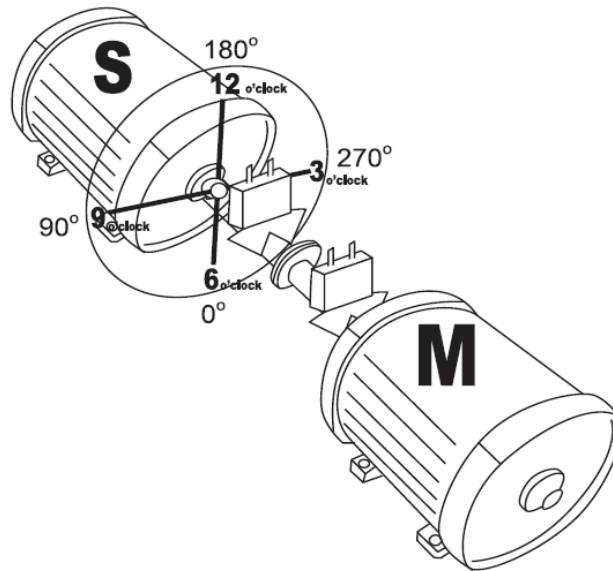

Fig 4.
While making the measurement, it is necessary to observe and understand the orientation on rotation direction of the shafts with the (S) and (M) measuring transducer units with regard to the relative position of the (S) and (M) machines as in Fig.4.
Fig. 4 shows the view of (S) machine from the (M) end view, at the 12:00 o'clock position. The measuring transducer units have marking (S) and (M) on the top of each unit, should be mounted with brackets onto the shafts of the (S) stationary and (M) movable machine respectively.